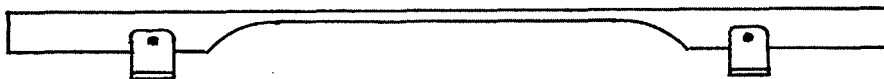

Figure 6
A. The bar supports shall be placed between bars at the node points. (See Figure 6)